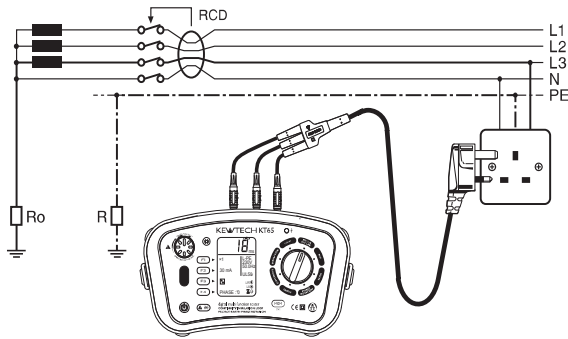

Fig.35
2. Connect the test leads to the circuit to be tested. (Fig.35, 36, 37)